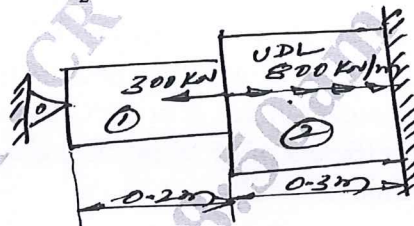

Fig.Q3(b)
- b. Find the nodal displacement stress and reaction for the bar subjected to load as shown in Fig.Q3(b). Take  $E_1 = 70$  GPa and  $E_2 = 200$  GPa. (10 Marks)